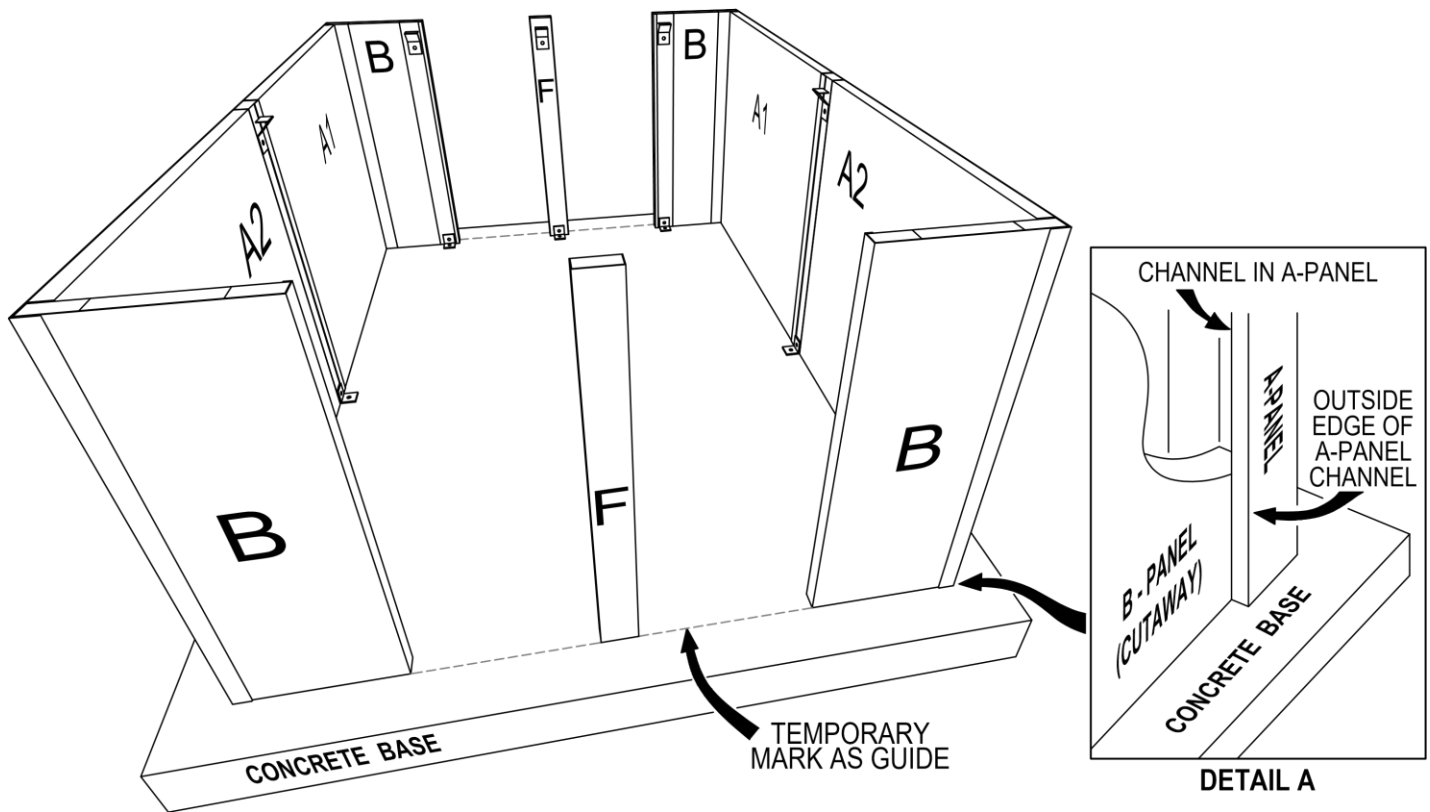

FIG. 1
4. Assemble the "A#-B" (corner) assemblies through the holes provided using Hex Head Screws. (For best results, insert a bead of silicone caulk into the inside bend of the "A#" panel corners.) Set them on the marked concrete base (Fig. 1).